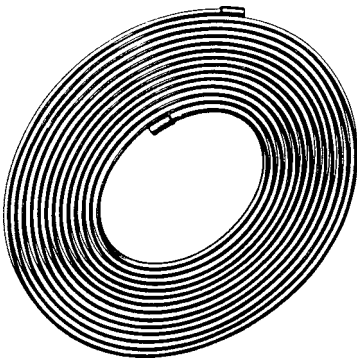

Figure 11-6 Refrigeration service tube in a 50-ft coil. (Courtesy of Mueller Brass.)
For flare-fitting applications, seamless soft copper tube is recommended (see Fig. 11-6). This tube is furnished with sealed ends. It is supplied in 50-ft lengths in sizes from 1/8- through 3/4-in. outer diameter (OD) for flaring and through OD for soldering.